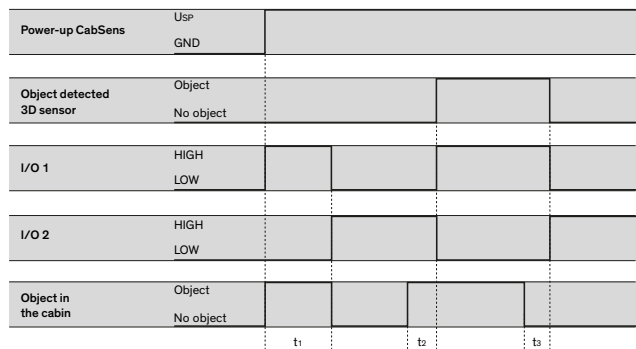

Figure 5: Timing diagram
- The sensors take permanent image and the controller compares them with the reference image. The status of the I/O outputs is set free and changes to object detected if a person and/or an object enters the cabin (Figure 5).
Table 2: Descriptions of the times provided in Figure 5